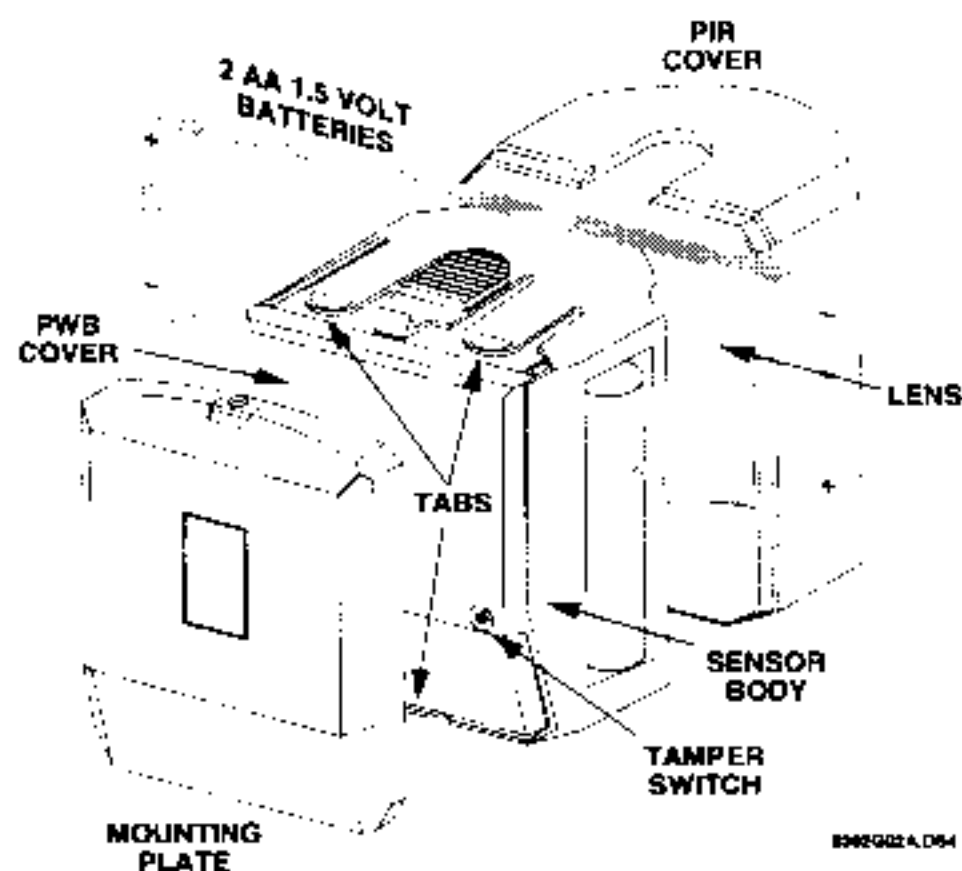

Figure 8. PIR Components, Battery Locations, & Tamper Switch
2. Remove the cover by depressing the two tabs on the top and the one tab on the bottom of the sensor body and sliding the cover off (see Figure 8).
3. Remove the front cover of the sensor by depressing the two tabs on the top and the one tab on the bottom of the sensor body and sliding the cover off (see figure 8)
When battery replacement is necessary, observe proper polarity (as shown in the battery compartment) when installing the new battery, or the sensor may be damaged. Be sure to note that as you look at the battery compartment, on the left side the positive side is down and on the right side the positive end is up. When the battery is replaced, wait at least 3 minutes after installing the battery before activating the walk test mode. See Figure 8 for battery locations.